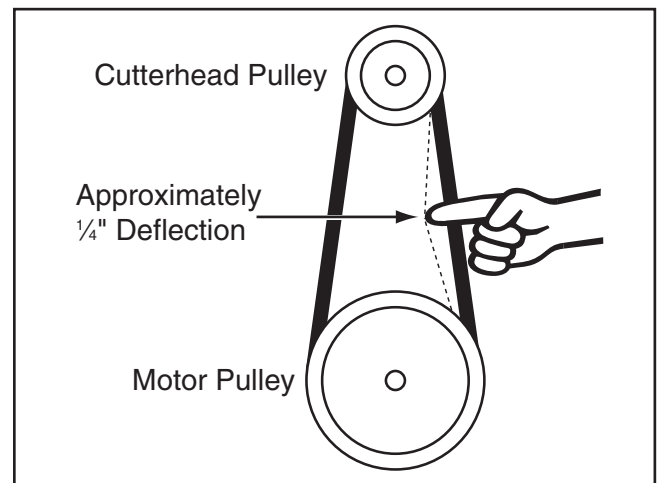

Figure 68. Checking belt tension.
5. Press belt with moderate pressure in center to check belt tension. Belt is correctly tensioned when there is approximately $\frac{1}{4}$ " deflection when pushed, as shown in **Figure 68**.